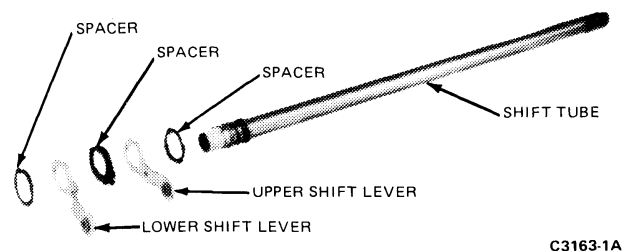

FIG. 6 Shift Levers Disassembled—E-100—E-350, F-100—F-250
8. Slip the shift tube into the upper end of the steering column making sure that the lower end of the tube engages the shift lever or levers, (Fig. 6).